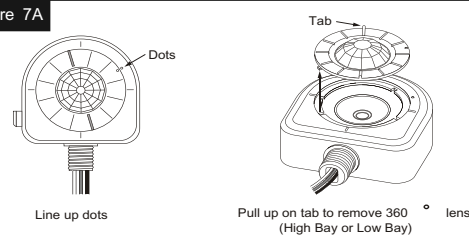

Figure 7B
4. To insert the black aisle lens, line up the indented dots and indented tabs on underside of lens and insert into key openings and turn clockwise (**refer to Figure 7B**)